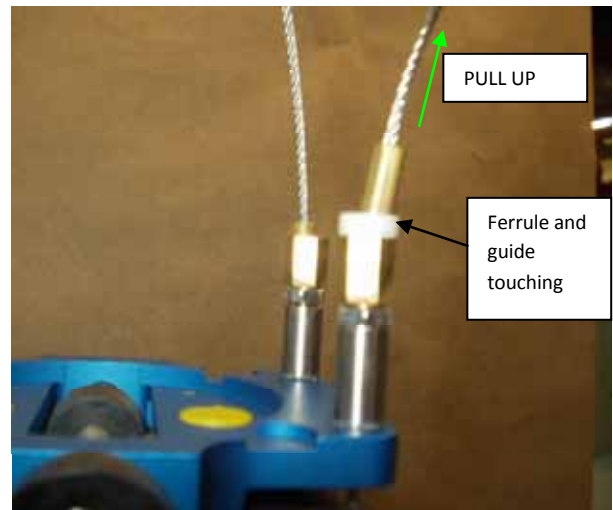

Figure 56 - Remove Slack from Spring Cable
21. Pull front cable up to **remove any slack** remaining in cable while tape is holding assembly, or if tape is not used. Slide ferrule down until it touches the top of the #ARA-711 cable guide while there still is no slack (Figure 56), and crimp ferrule in place (Figure 57).